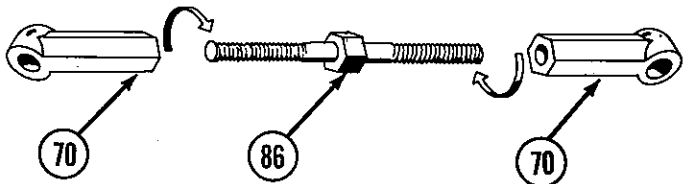

FIG. 30
33. Thread an adjustable rod end (70) onto each end of a 1 1/2" turnbuckle (86) taking care to note one side of turnbuckle (86) has left hand threads. Fig. 30.